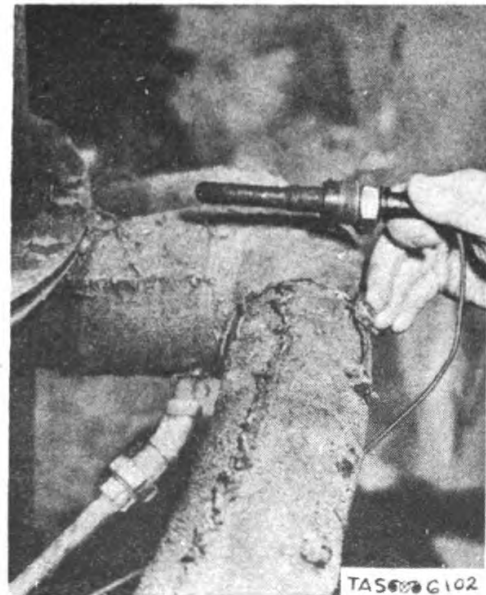

Fig. 102. Taking Out Instrument Bulb of Dial Thermometer.
1. Remove separable bushing, gasket, and tube system from center of spray nozzle manifold and take out the bulb of dial thermometer. (See fig. 102.)